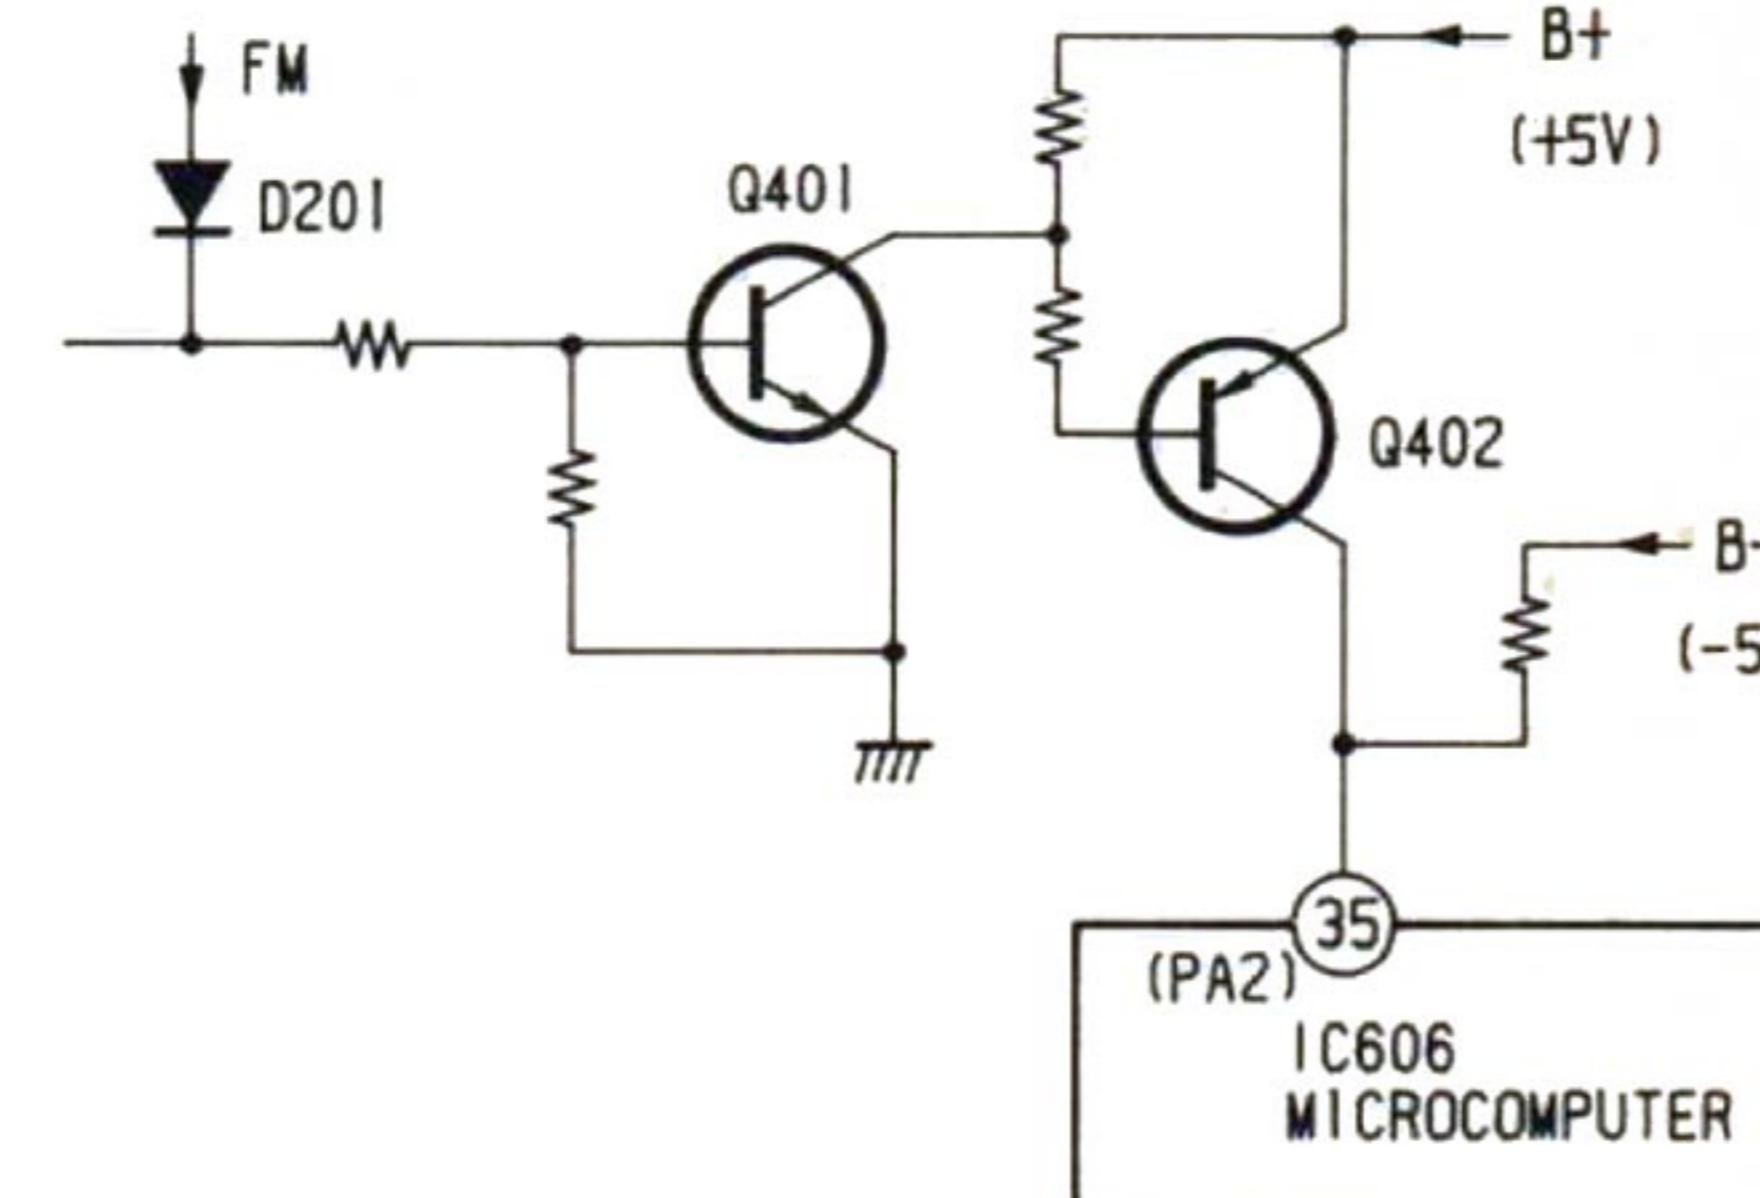

Fig. 11
3) AUTO TUNING Stop Signal (Refer to Fig. 11):